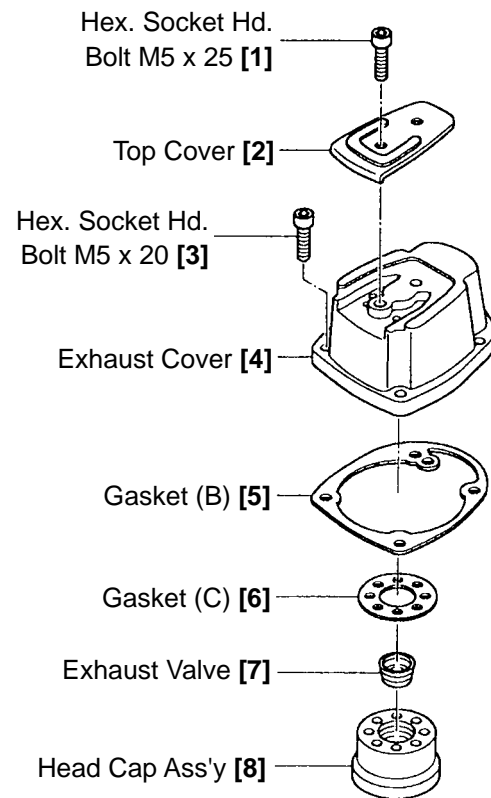

Fig. 12
(2) Head Cap Ass'y [8], Exhaust Valve [7] and the related parts (See Fig. 12.)
- Remove the two Hex. Socket Hd. Bolts M5 x 25 [1] and, such as illustrated in Fig. 12, disassemble the Head Cap Ass'y [8], the Exhaust Valve [7] and Gasket (C) [6] in that order.